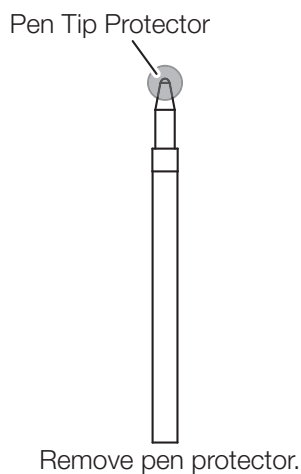

Fig. 8
- (5) Remove a pen tip protector before use, Fig. 8.